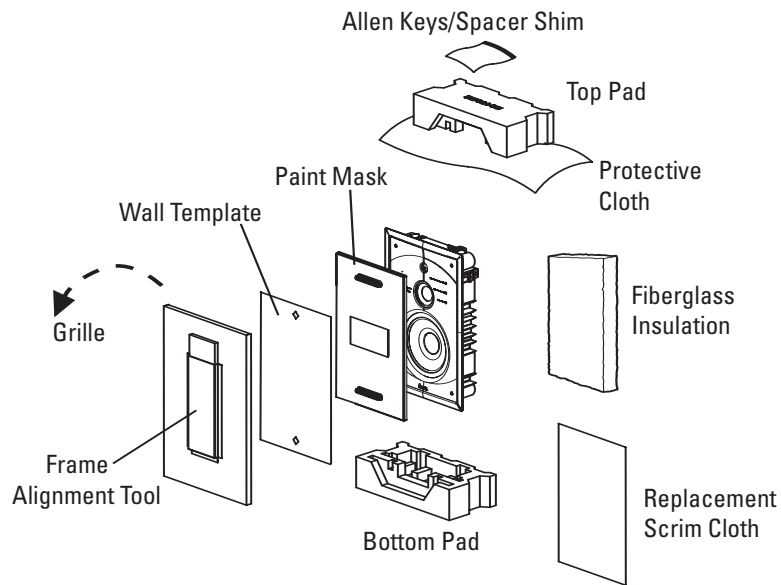

Figure 2: Packing Materials
4. Remove the bottom pad, and then remove the frame alignment tool and grille from the grille filler. These items are identified in Figure 2.